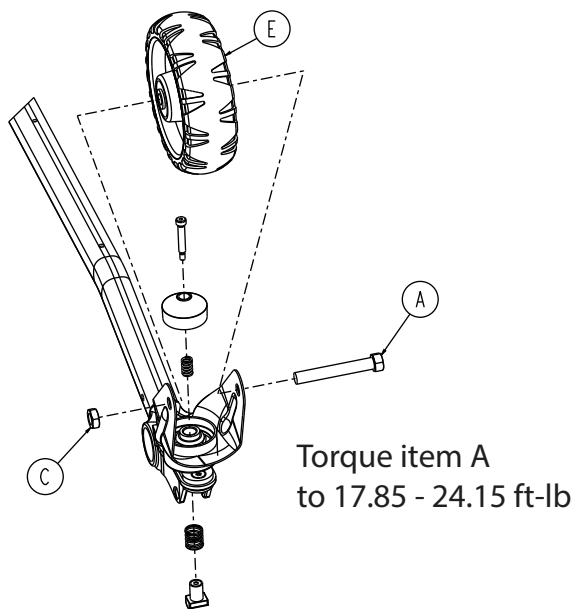

Figure 67 – Transport wheel components
4. Using a ratchet, 11/16" socket wrench, and 5/8" combination wrench, remove the hex head cap screw (A) and toplock hex thin nut (C) that secure the 6 inch molded wheel assembly (E) to the caster horn (Figure 67). Remove and discard the wheel. Save the screw and nut.